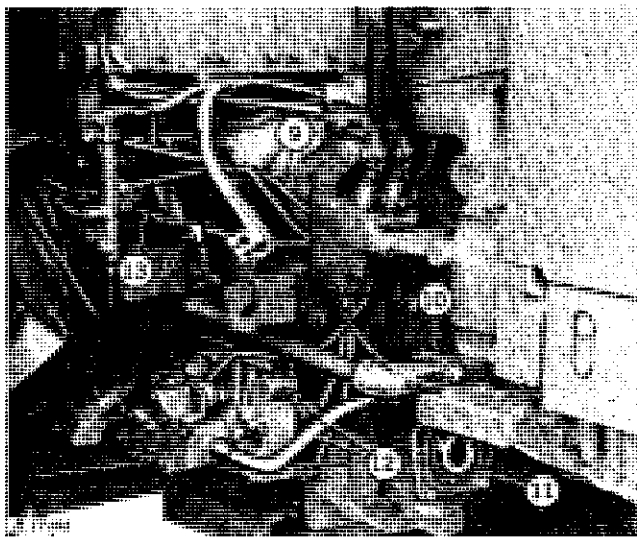

Fig. 10-Right-Hand Side of Transmission Case
9. Disconnect the right-hand and left-hand brake pipes (Fig. 10).